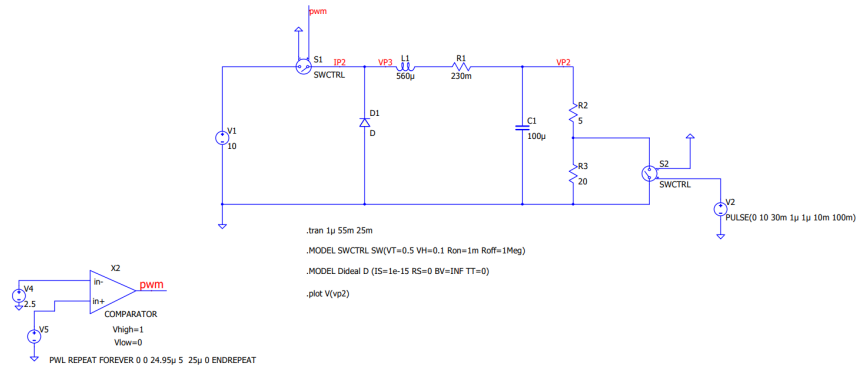

Figure 9: QSpice schematic: Buck converter with step load changes.
Alter the buck converter QSpice circuit by adding a switch which is controlled by a pulse source as shown in Figure 9 .
- Open the QSpice circuit file designed for step load changes (e.g., shown in Figure 9).
- **Simulation Parameters:** A command like `.tran 1u 55m 25m` (Stop time 55ms, Start saving data at 25ms) seems appropriate for the circuit in Figure 9. This ensures the system is in steady-state before the load change (e.g., at 30ms).
- **Analysis:** Plot the output voltage (e.g., V(vp2) if that's the output node in Figure 9).
5. **Output current step response:** Based on discussion in a prior section of this lab, determine the converter output impedance, Z_{out} . We will use the transfer function $-Z_{out}$ to obtain the response for a step load change. In order for this to mimic the practical circuit as closely as possible you will first determine the value of the current step involved. Taking note of the load switching circuit shown in Figure 9, we see that the load switches between 25 ohm and 5 ohms. This results in the output current switching between $I_{o_1} = \frac{V}{25}$ and $I_{o_2} = \frac{V}{5}$, where we have assumed that the output voltage does not change appreciably. Thus the current step is $I_{o_diff} = I_{o_2} - I_{o_1}$.